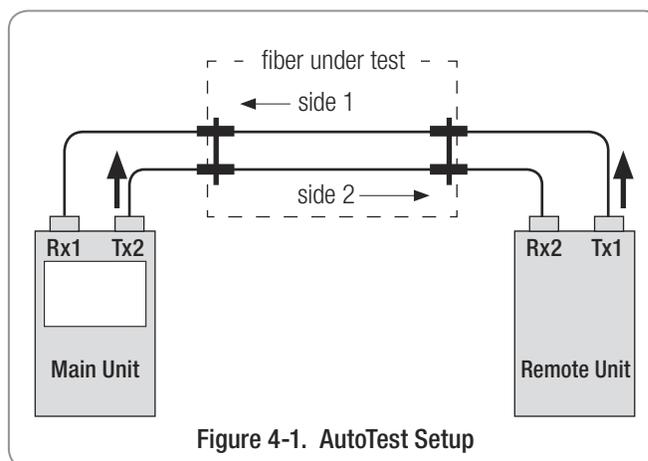
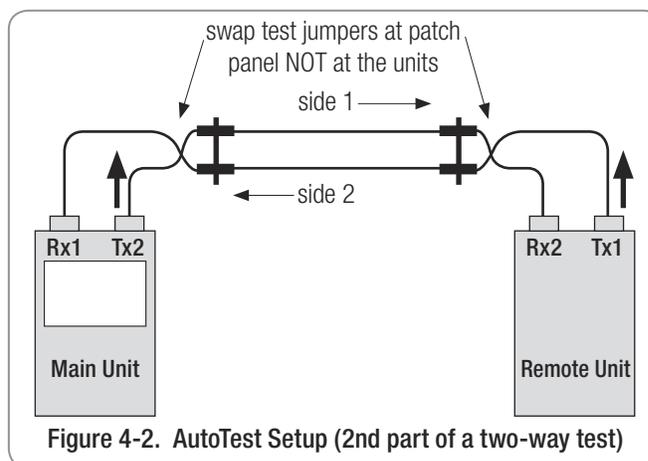

Figure 4-1. AutoTest Setup
Figure 4-2. AutoTest Setup (2nd part of a two-way test)
**NOTE:** To make bi-directional loss measurements, the Main Unit must be setup to perform “two-way” tests (refer to section “Selecting AutoTest Direction”). Refer to Figures 4-1 and 4-2 when conducting the following procedure. The Main Unit will prompt you to swap test jumpers (Figure 4-2)
- 5 Connect to the fibers under test (Figure 4-1)